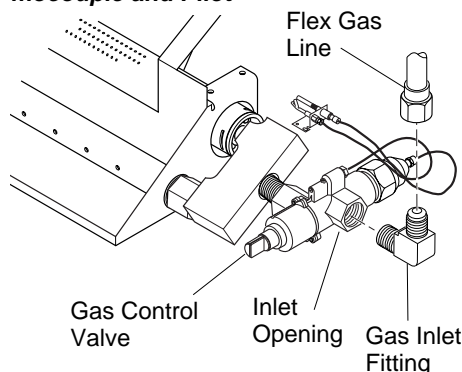

Figure 13 - Installing Inlet Fitting and Gas Connector Tube
3. Install the inlet fitting into the inlet opening of the gas control valve (see Figure 13). Use thread sealant on the male pipe threads.